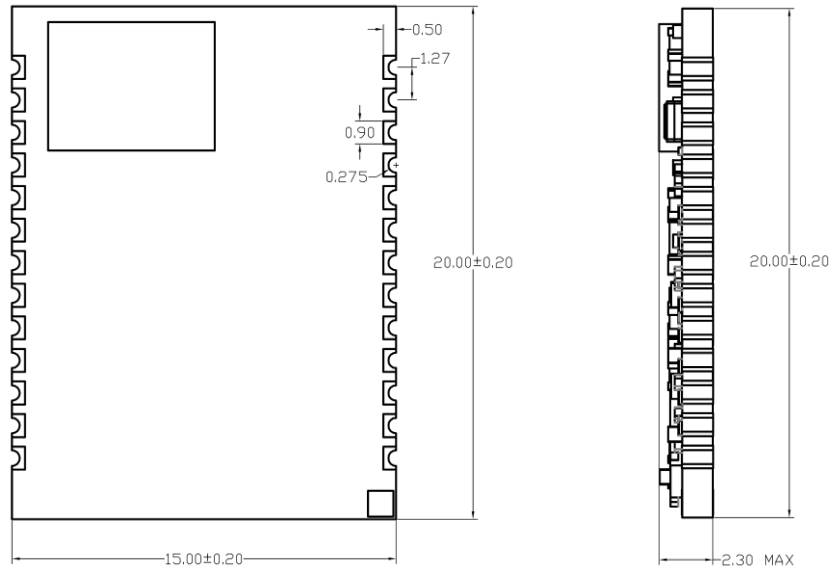

**Figure 6-2. Recommend Layout of Radar module**
2. Please keep the module solder layer that no ground plane and trace rout in the keep-out area. Show in Figure 6-2.